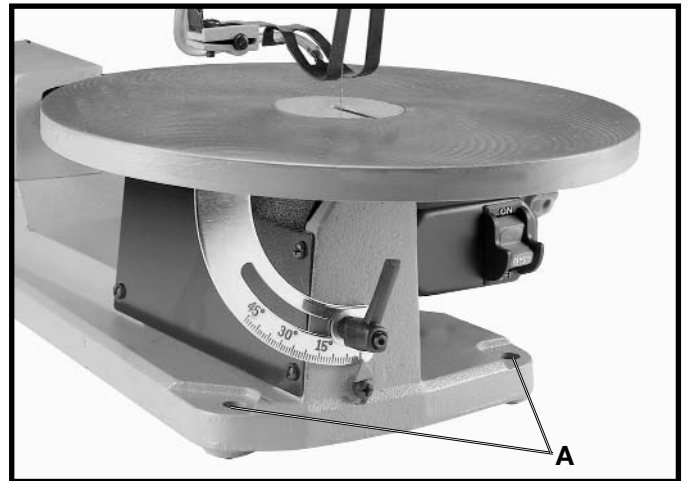

Fig. 10
This scroll saw **MUST** be securely fastened to a stand or workbench using the three holes, two of which are shown at (A) Fig. 10. The third hole is at the rear of the machine.